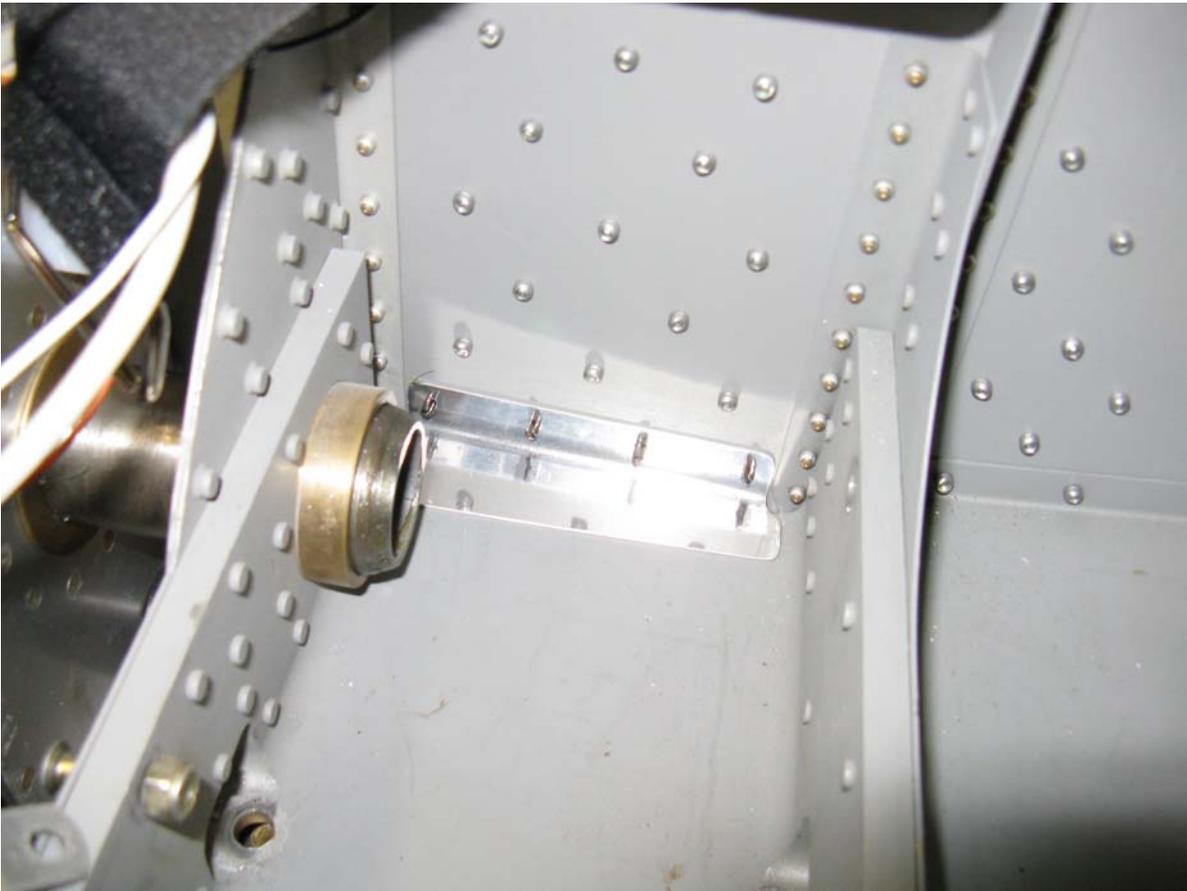

FIGURE 13: CLECOING THE SKIN
Step 25: Cleco the F-1202U-B L & R into position (cleco all holes). Use a 12" #30 drill, and match drill from below up through the four holes in the F-1204 Center Section (cleco each hole as you drill). See Figure 13.